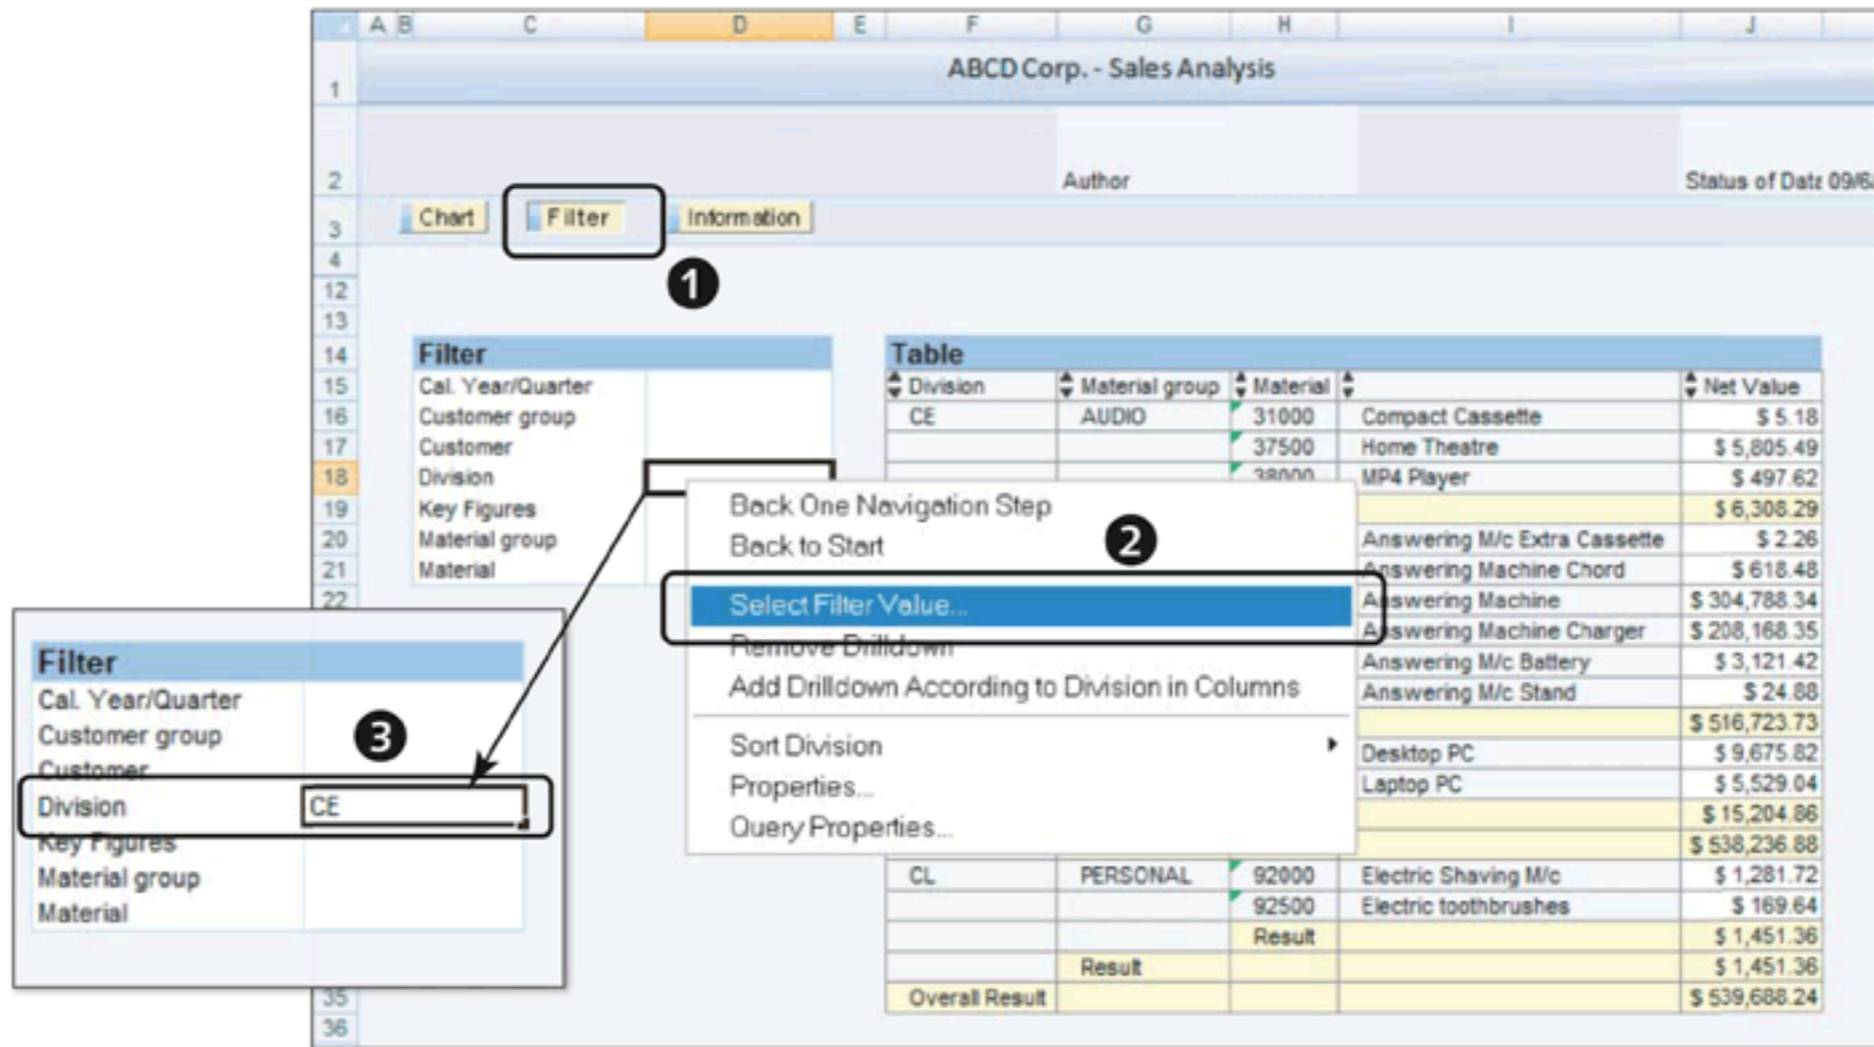

Figure 10.12 Applying Filters in a Workbook
As we mentioned earlier, the FILTER button is available in the workbook (1 of Figure 10.12). Clicking on this button displays the filter pane with all of the characteristics and structures used in the query. You can use this pane to restrict the query result to the selected value(s) of the characteristic(s) or to the selected structure element. To apply the filter from the filter pane, select a characteristic or structure and choose SELECT FILTER VALUE from the context menu (2).